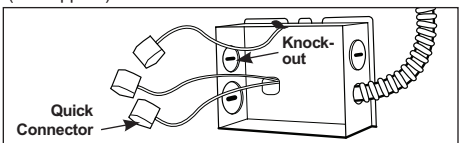

Figure 8
Step 2. Remove wiring box cover. Remove the appropriate knock-out(s) to accommodate the type of electrical supply being used (Fig. 8):